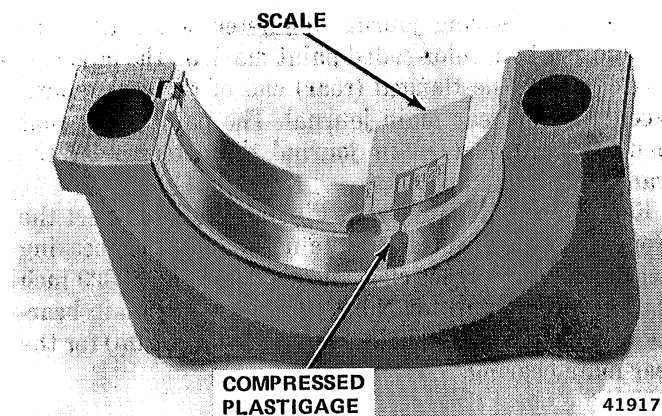

Fig. 1B-149 Measuring Main Bearing Clearance with Plastigage
(6) Remove bearing cap and determine amount of clearance by measuring width of compressed Plastigage with scale on Plastigage envelope. Correct clearance is 0.0015 to 0.0020 inch (0.038 to 0.051 mm) for No. 1 through No. 4 main bearings and 0.0025 to 0.003 inch (0.064 to 0.076 mm) for rear main bearing (fig. 1B-149).